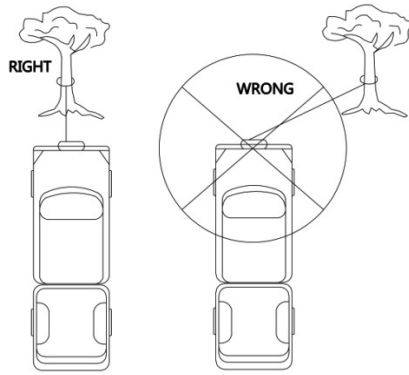

Figure 4-7
- Avoid continuous pulls from extreme angles. The angle should be as close to straight as possible for a hawse fairlead. (See Figure 4-7)